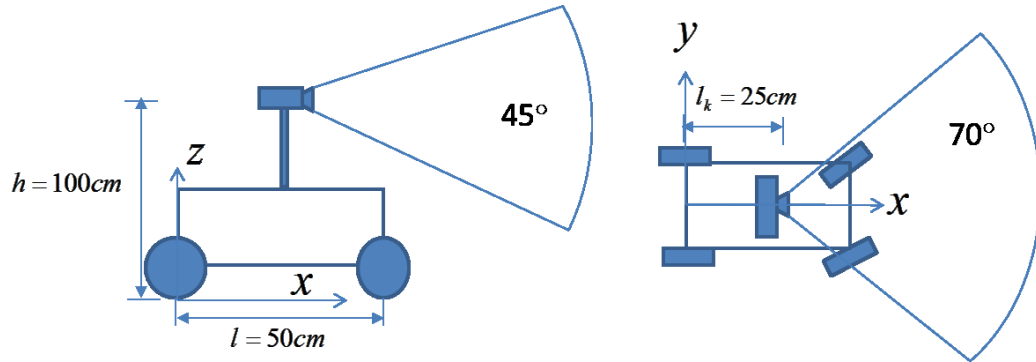

Figure 1: Ackermann robot dimensions and Kinect field of view.
- b) Define an expanded state vector that captures the 3D position of the features in the environment as well as a measurement model that includes range, azimuth and elevation measurements (relative spherical coordinates from the camera to each feature). Use Gaussian noise of  $\sigma_r=(0.08)^2 \text{ m}^2$  and  $\sigma_{ac}=(0.01)^2 \text{ rad}^2$ . The update rate is also 10 Hz, the maximum detection range is 6 m, the field of view of the sensor is 70 degrees horizontally and 45 degrees vertically, and the Kinect is positioned so the image plane is perpendicular to the robot forward (robot x) axis, at the center of the robot and at a height of 1m off the ground. See Figure 1 for a representation of the robot and sensor configuration.